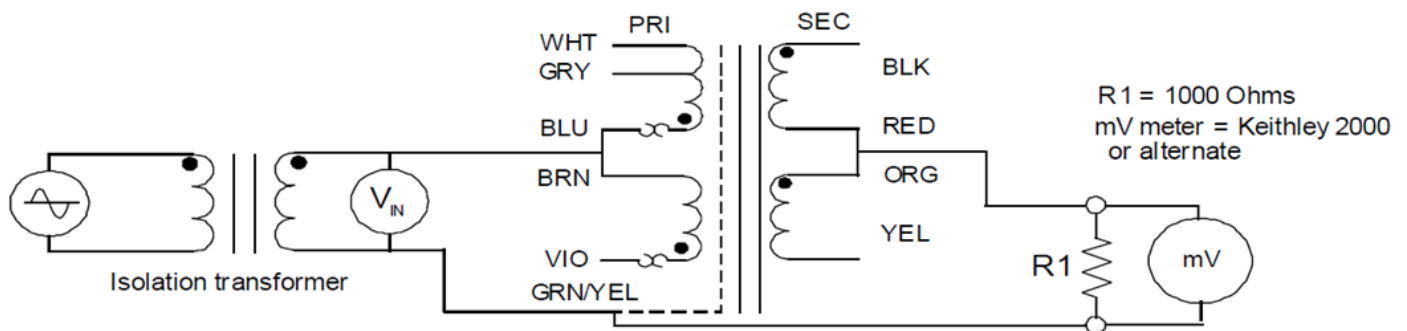
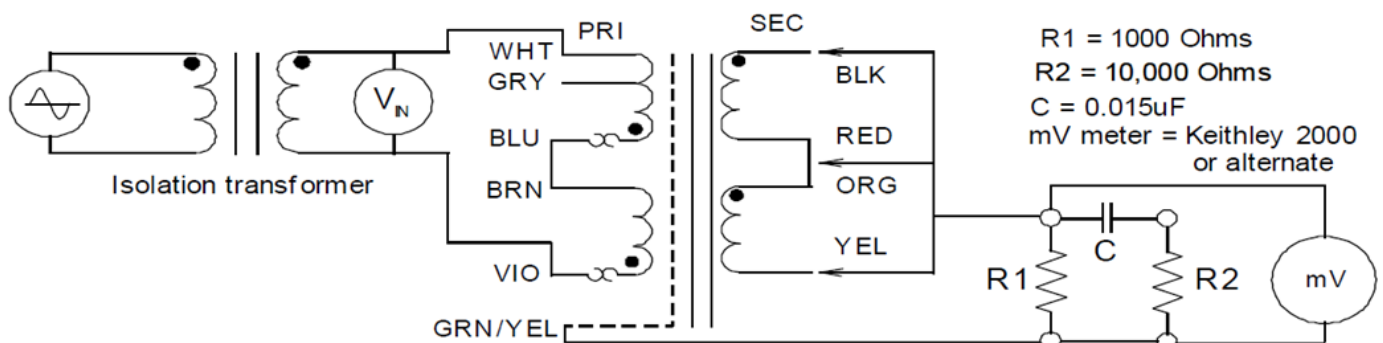

Figure 1
Figure 2
8. Earth Leakage:  $\leq 10\mu A$  (See Fig. 1), Patient Leakage:  $\leq 25\mu A$  (see Fig. 2)